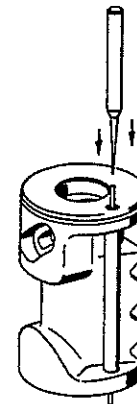

Fig.12
7.3.1 Versions with caulked valve insert (109) - steering limiter valve
Position piston (101) upright so that the caulking on valve insert (109) points upwards (**Fig.12**).